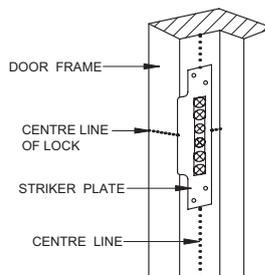

fig. 5
7. Insert lock into door and secure with screws supplied determine the position of the strike on the door and fix as required fig 5/6.